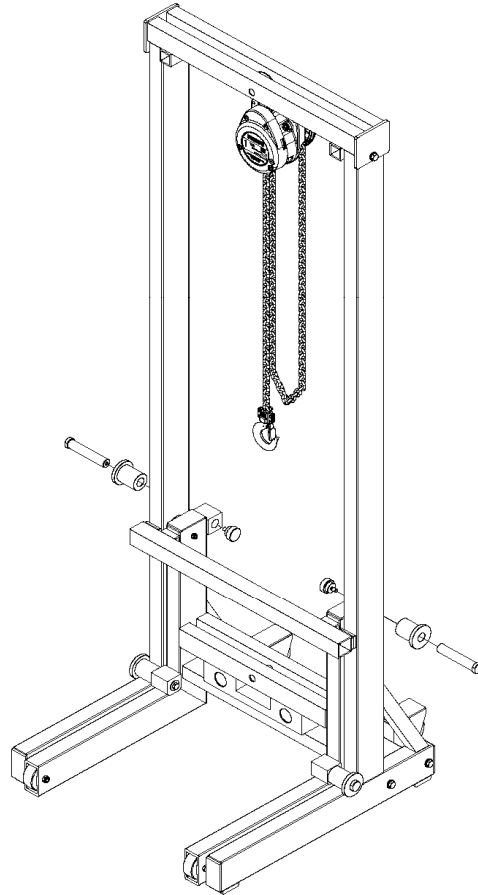

Fig. 4
- 7.4 Place the forked frame into the frame of the stone block lifting device as shown in Fig. 4.